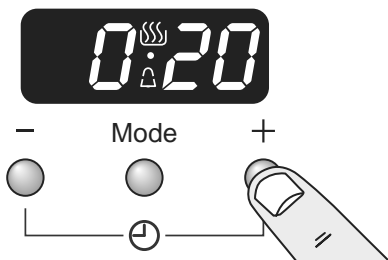

Fig.2-18
1. Press the mode [Mode] button, until the display flashes 'dur' (Fig.2-18).